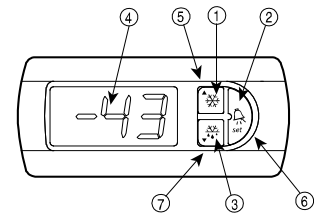
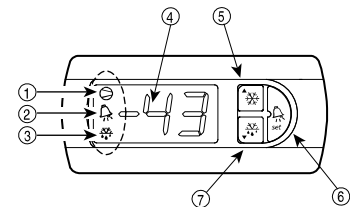

Fig. 2.3.1
Fig. 2.3.2
Figs. 2.3.1 and 2.3.2 shows the front panel of the plug-in: display and buttons. The front panel of the instrument features a three-digit display (ref. 4) and three LEDs for backlighting the buttons (refs. 1, 2 and 3 in Fig. 2.3.1), or alternatively three graphic symbols inside the area of the display (refs. 1, 2 and 3 in Fig. 2.3.2).
Three buttons (5, 6 and 7 in Fig.2.3.1) are used to perform the activation and deactivation of the instrument's operating states and set the parameters. The use of the buttons can be divided into two different situations: one in of normal operation, and the other to modify the parameters. For each button, the following are the possible actions associated with both possibilities.